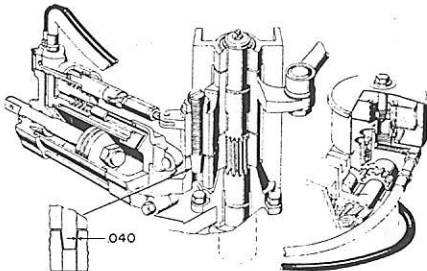

Fig. 12—Sector gears must be correctly timed during installation. Refer to text.
When reassembling the steering gear, first reinstall steering shaft assembly and power piston assembly. DO NOT install rack guide (42) at this time. Turn steering shaft until lower tooth on ball nut is aligned with right side cover opening then install pinion gear (11) with first tooth space (next to blank portion) meshed with lower tooth on ball nut. If not previously done, remove side cover from pinion gear (5) by threading adjusting screw out of cover. Turn steering wheel shaft until middle tooth space on upper part of pinion gear (11) is centered in left side cover opening and slide pinion rack (39) until middle tooth space is centered on top portion of side opening. Insert upper pinion gear (5) through left side opening with center tooth of each gear portion meshed with the previously aligned mating tooth spaces as shown in Fig. 12. Complete the assembly by reversing the disassembly procedure, omitting installation of the power piston rack guide until backlash is adjusted as follows: